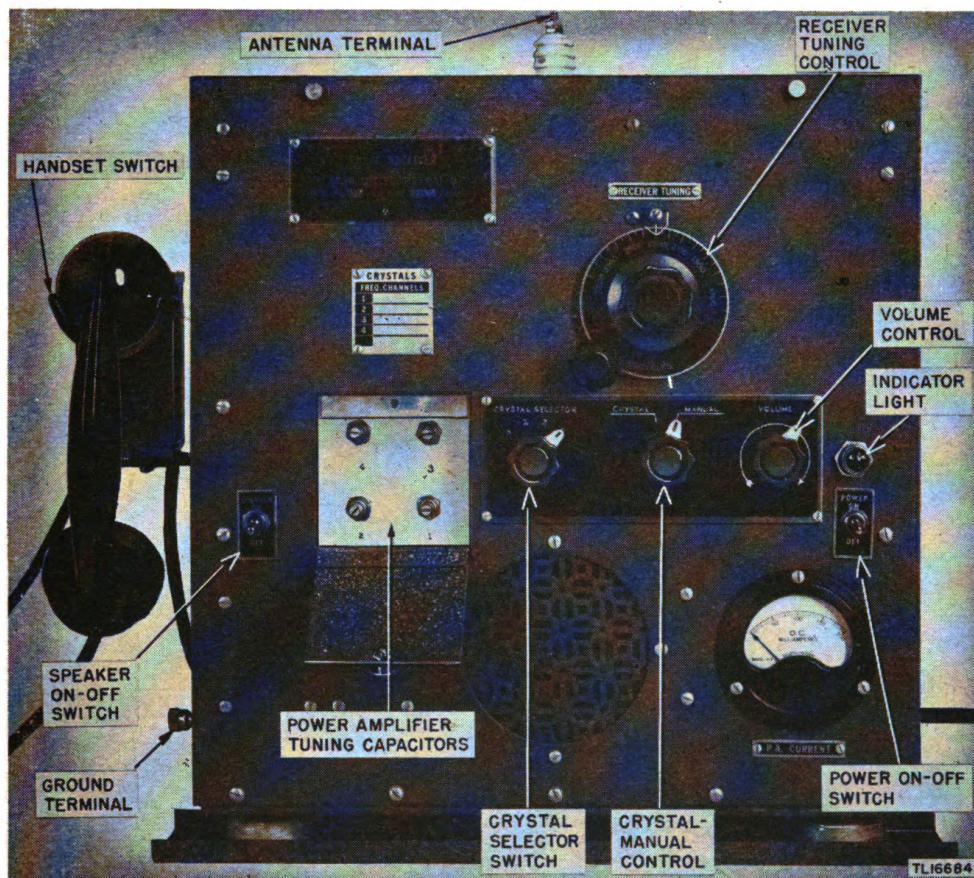

Figure 7. Radio Receiver and Transmitter BC-441-(\*)—front panel view showing location of controls.
The function of the various controls, jacks, and terminals which are mounted on the front panel of Radio Receiver and Transmitter BC-441-(\*) (fig. 7), are briefly described below:
*b. CRYSTAL CONTROL.* Make sure that the crystals are in their sockets (par. 15). Turn the CRYSTAL-MANUAL switch to CRYSTAL and the CRYSTAL SELECTOR switch to the desired channel, indicated on the chart on the front panel (fig. 7). Turn the RECEIVER TUNING dial to the corresponding frequency. Exact tuning will be indicated by a maximum of background noise or signal and will be most noticeable on weak signals. When the signal is strong, turning the RECEIVER TUNING dial will have little effect on reception. Lift the handset from its mounting; the signal will now be heard in the handset receiver.